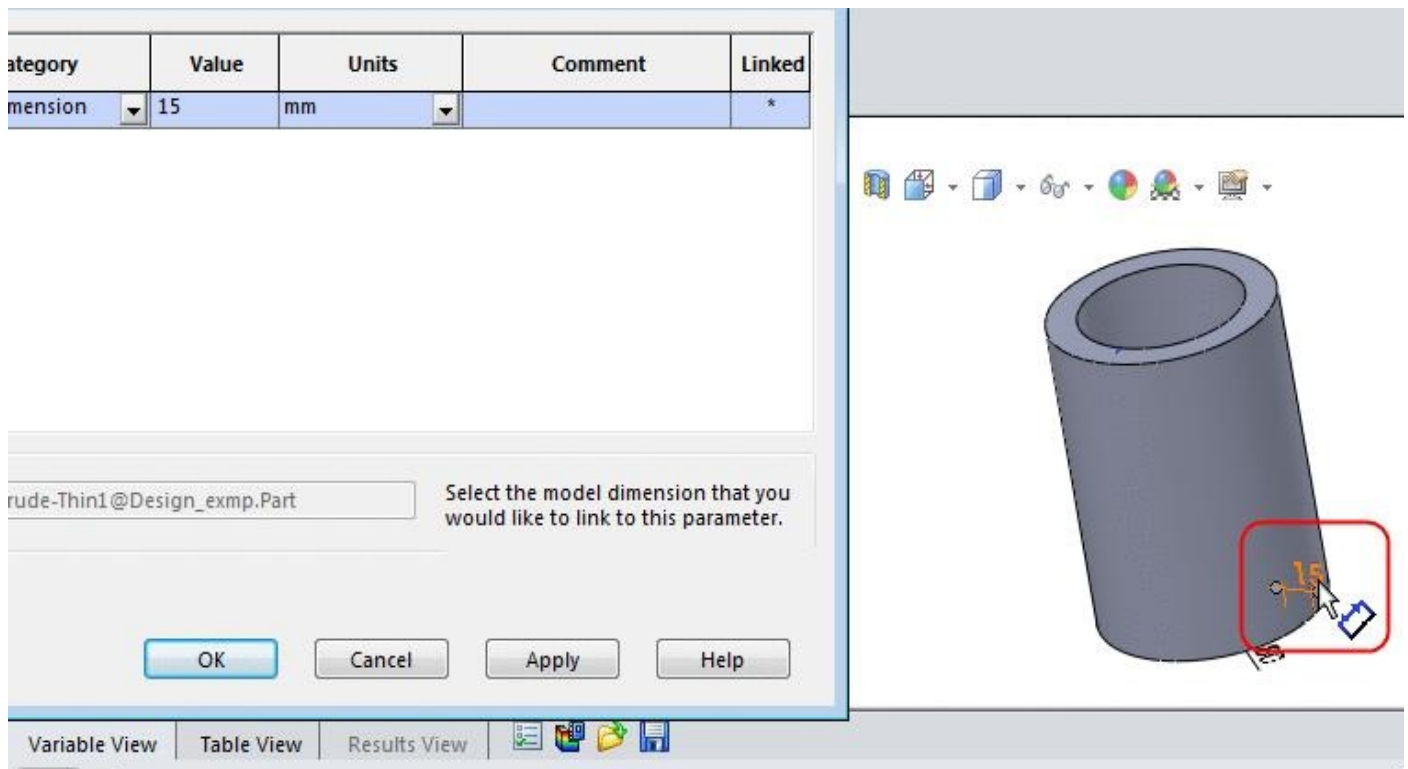

Figure-18. Dimension selected as variable
- Click on the dimension of the model that you want to make variable; refer to Figure-18. The selected dimension will be added under the **Value** column in the **Parameters** dialog box.